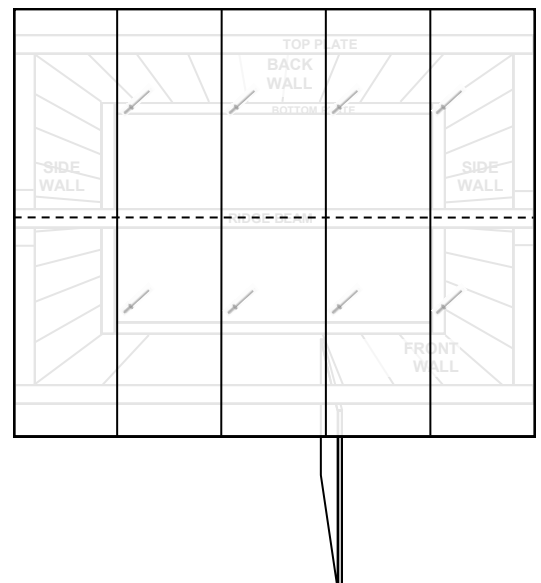

fig. 3
- Rivet sheets together at overlaps, one rivet either side of the ridge beam (**fig. 3**).
- Rivet the Barge Flashings to the roof and the side wall, using four rivets on top of barge and four into the side (**fig.3**).